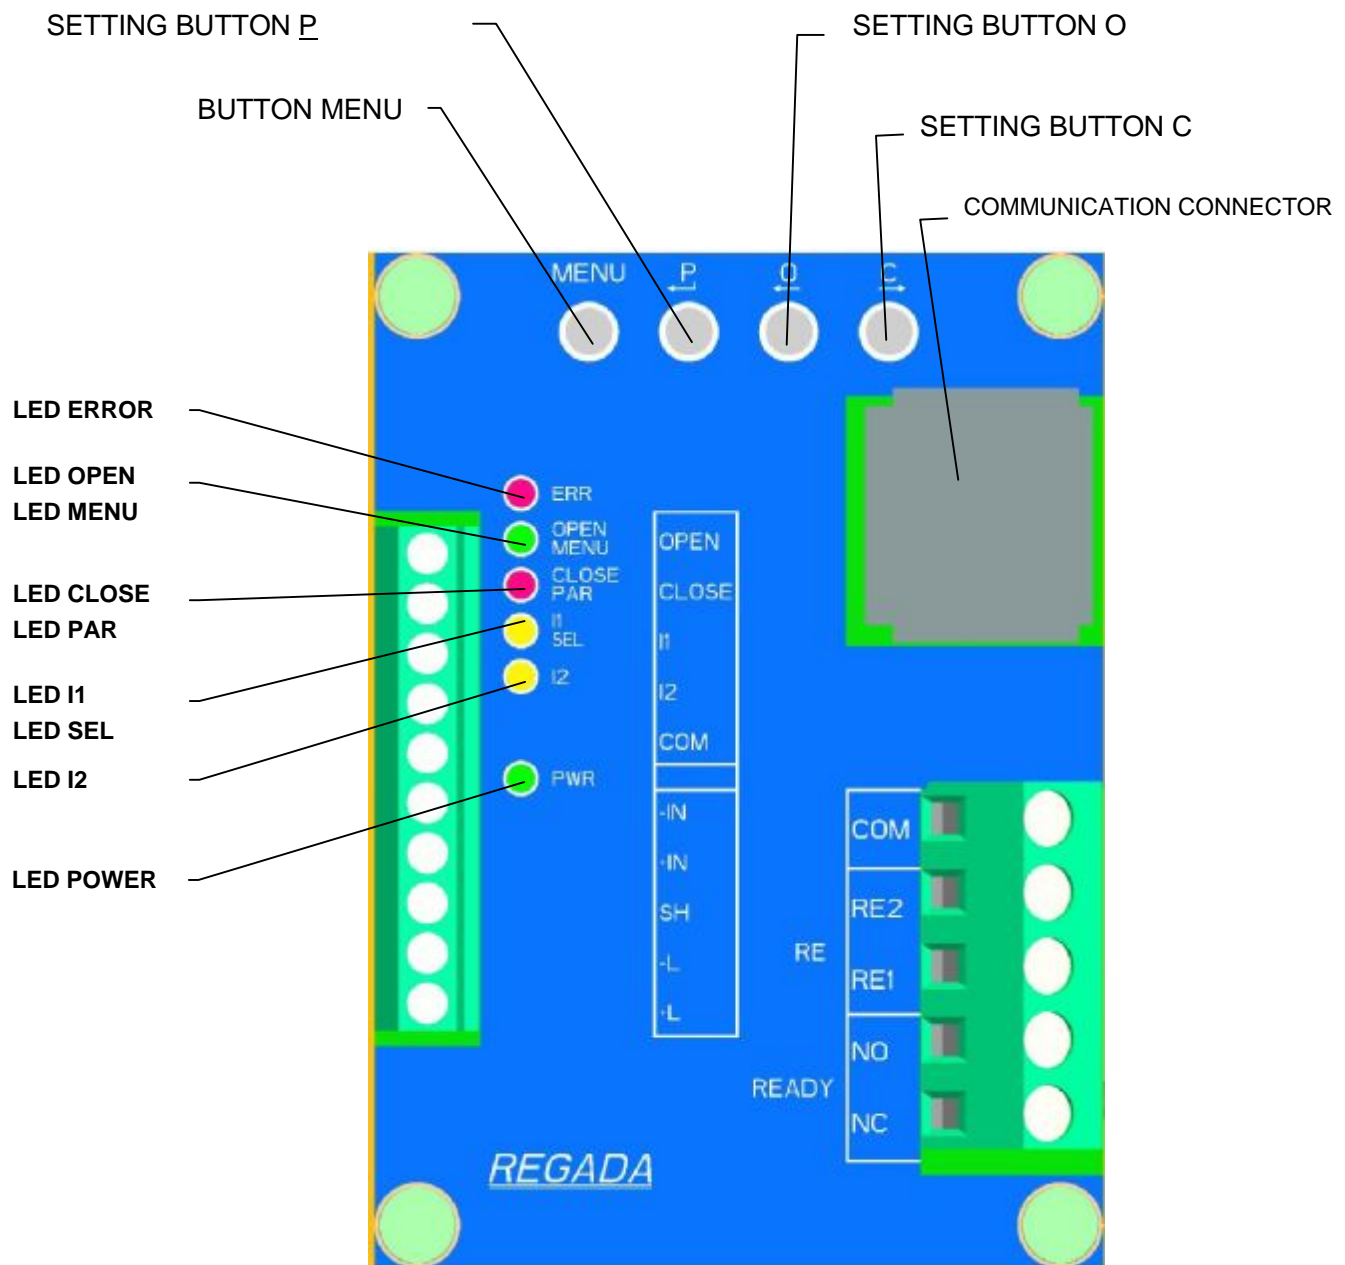

Fig. 6
Adjustment is made onto mechanical and electrical connected actuator. This chapter describes how to set up the EA to parameter values within a range applicable for the software. Location of adjustable parts of control board is on **Fig. 6**.
- by operating the control unit buttons (see **Fig. 6**);
- six signal lamps according (LED diode) to **Fig. 6**.